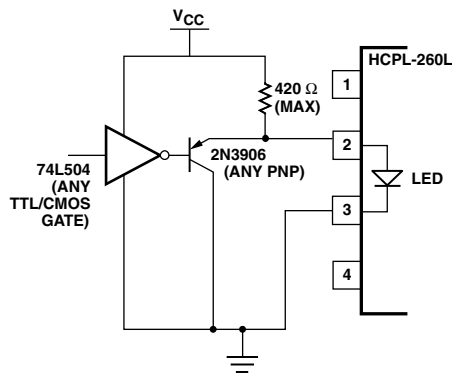

Figure 15. TTL interface circuit.
1. Use of drive circuits where current is shunted from the LED in the LED 'off' state (as shown in Figures 15 and 16). This is beneficial for good CMR_H .
Figure 15 shows a circuit which can be used with any totem-pole-output TTL/LSTTL/HCMOS logic gate. The buffer PNP transistor allows the circuit to be used with logic devices which have low current-sinking capability. It also helps maintain the driving-gate power-supply current at a constant level to minimize ground shifting for other devices connected to the input-supply ground.